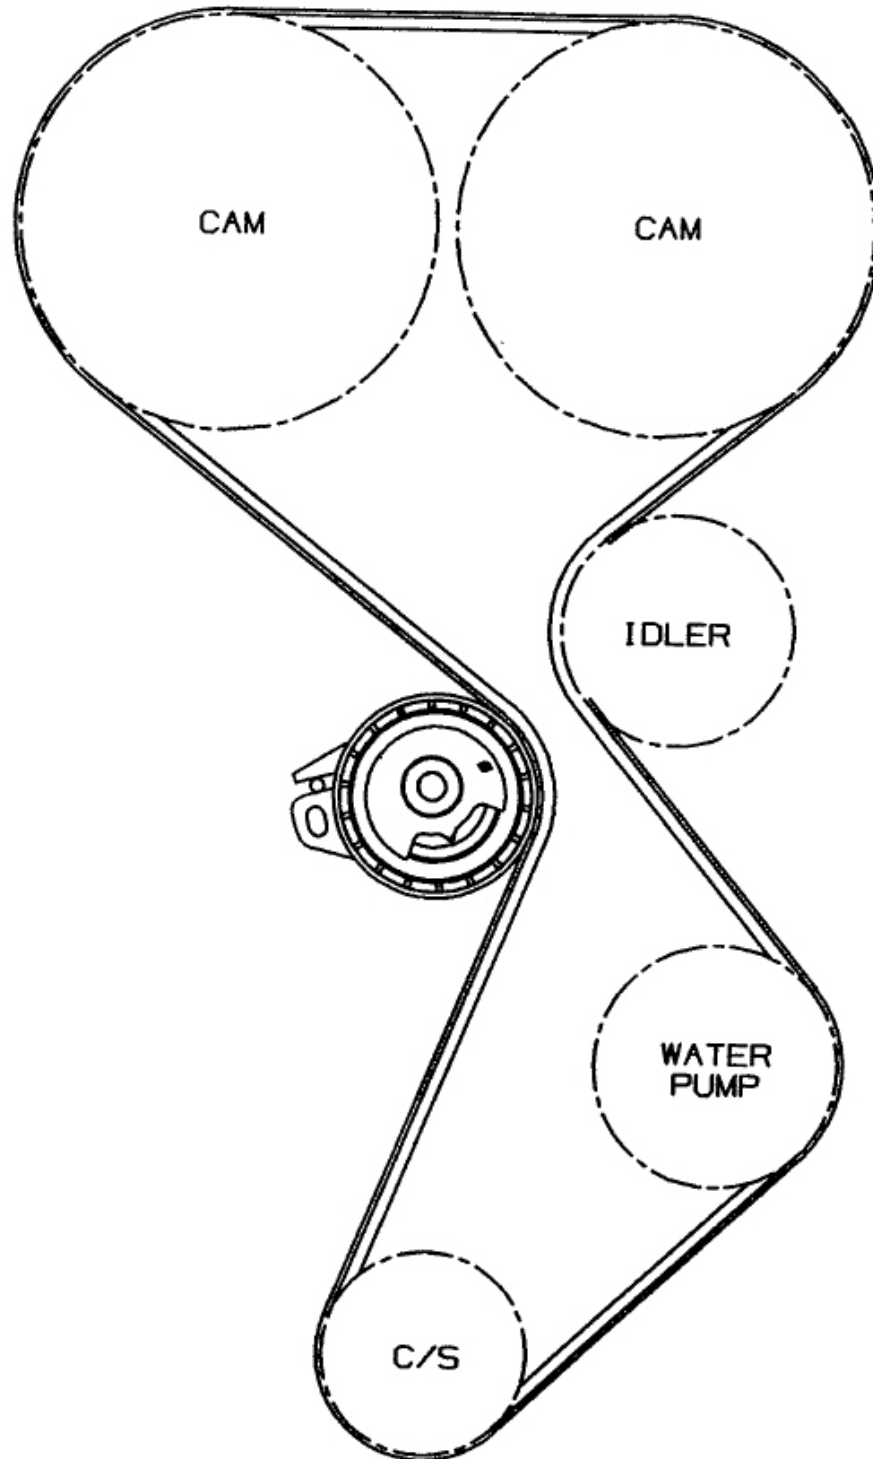

Figure 3: Belt Layout.
6. Install the timing belt being careful to engage the appropriate teeth of all the corresponding sprockets as per drive layout (See Figure 3).
Verify that all timing indicators on camshaft sprockets, crankshaft sprocket and water pump sprocket align with corresponding indicators (See Figure 3).